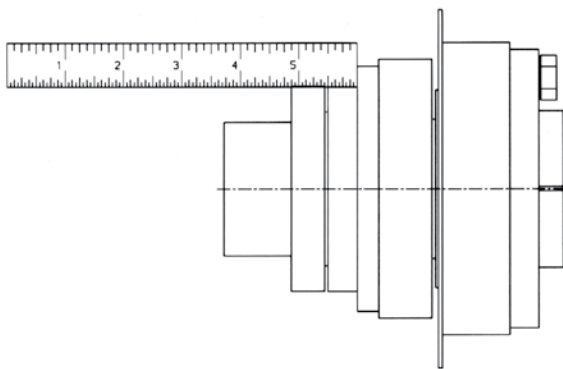

Figure 12 - Parallel “R” Coupling Alignment
- a. Place a straightedge across the coupling flange and clutch as shown in Figure 12.